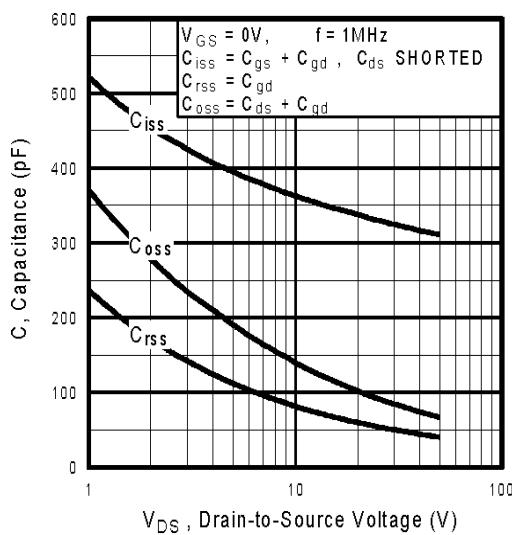

Fig 5. Typical Capacitance Vs.
| C_{rss} | Reverse Transfer Capacitance | — | 54 | — | | $V_{DS} = 25\text{V}$ $f = 1.0\text{MHz}$, See Fig. 5⑥ |